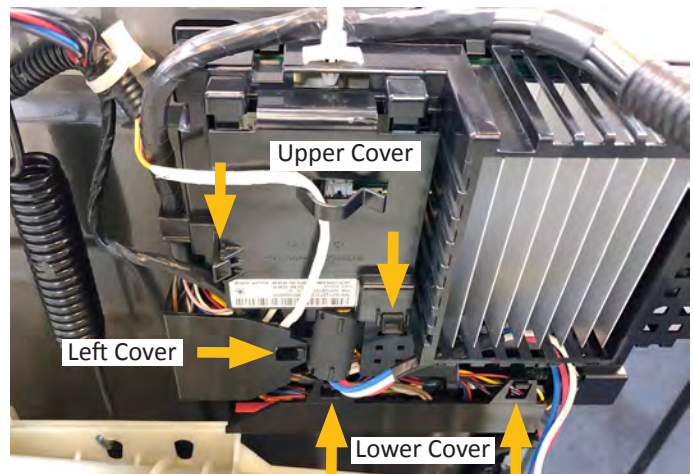

Figure 2
10. Open the three (3) connector covers (as shown in Figure 2) and disconnect all connectors from the ACU.
**NOTE:** Reference the ACU Board diagram on page 3-7 "ACU Connectors & Pinouts - Figure 2" for connector identification and locations